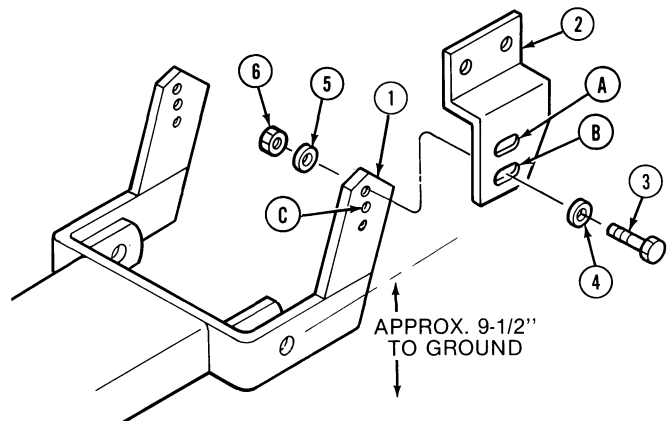

Figure 11
- Attach the rear frame, (1), to the front mounting brackets, (2), using two 5/8" NF x 2" hex hd. bolts, (3), spacers, (4), lockwashers, (5), and nuts, (6), as shown in Figure 11. Do not tighten the bolts at this time.